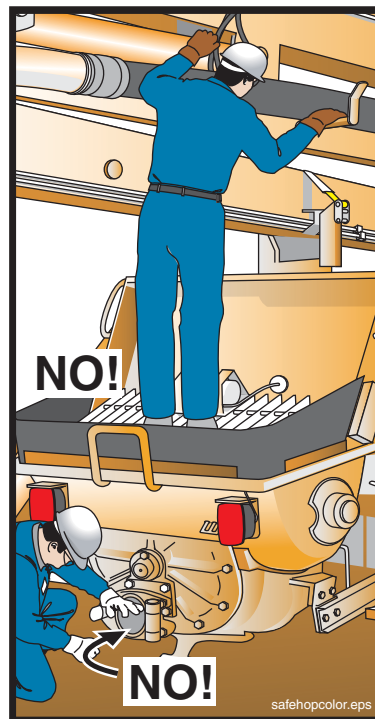

Figure 25
- 8.2 **⚠ WARNING** Crushing and amputation hazard! **Never put your hands or any other body part into the concrete valve.** Instead, use water jets and the supplied rake (Figure 25).
- 8.3 **⚠ WARNING** **Never put your hands or any other body part into the machine when the hydraulic system is operational.** If you must remove the grate to chip at hardened concrete, you must first disable the system by taking the transmission out of gear and locking the cab door, or stopping the engine, relieving pressure in the accumulator circuit (if so equipped) and securing the controls against unintended operation. Reinstall the grate before restarting the engine (Figure 25).